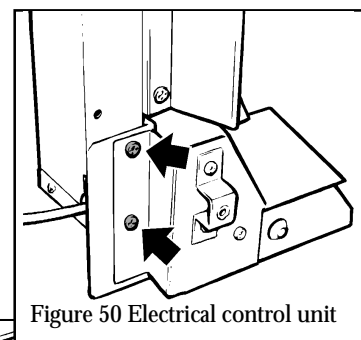

Figure 50 Electrical control unit
16.9.2 Detach the control unit from the convection box left side flange by removing two screws (see figure 50). Carefully pull the unit slightly forward.